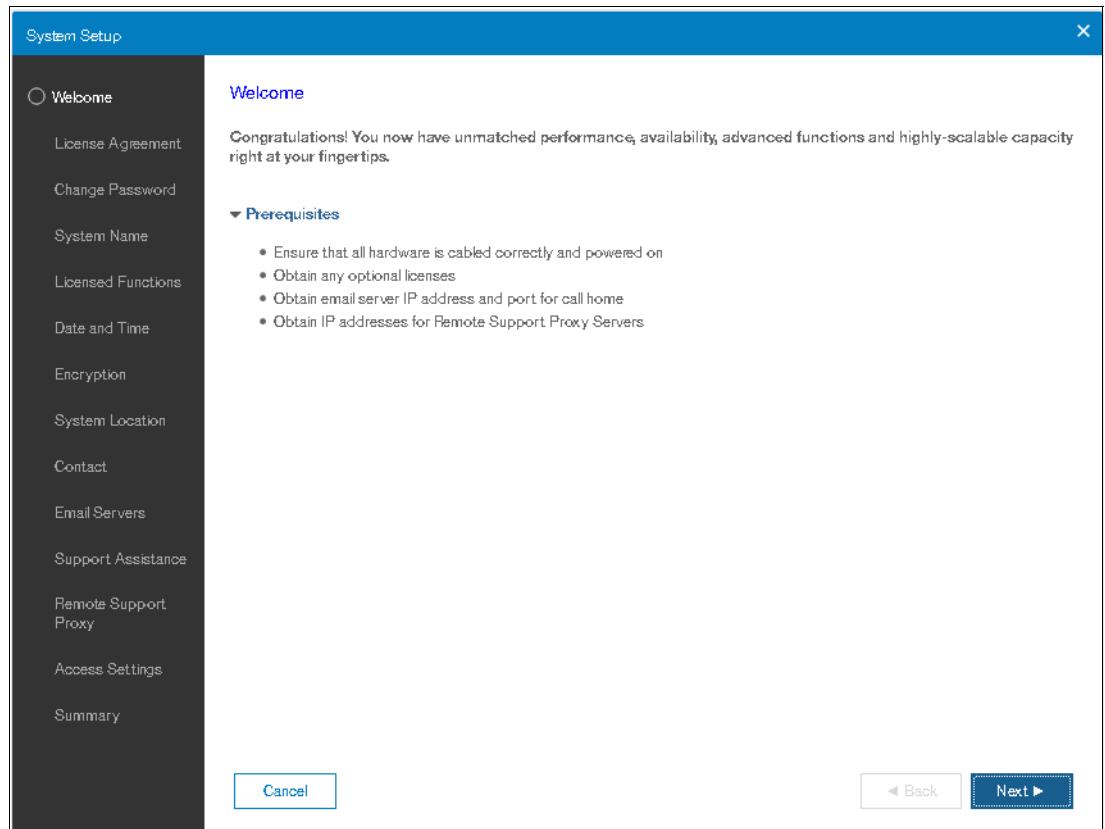

Figure 2-23 Setup wizard: Welcome
3. Verify the prerequisites in the Welcome window as shown in Figure 2-23 and click **Next**.